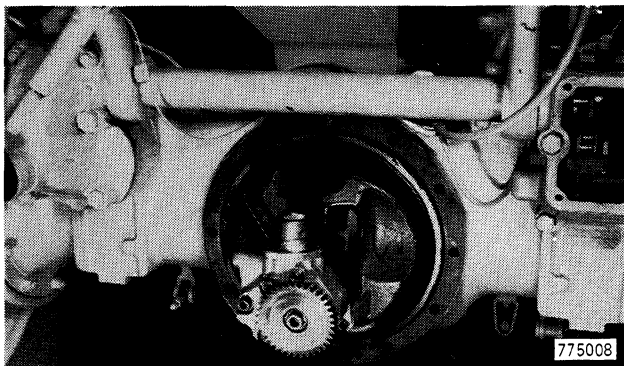

Figure 364
41. Install a new O-ring on pump inlet tube. Install selectamatic pump and secure tube clamp to top of pump, Figure 364.